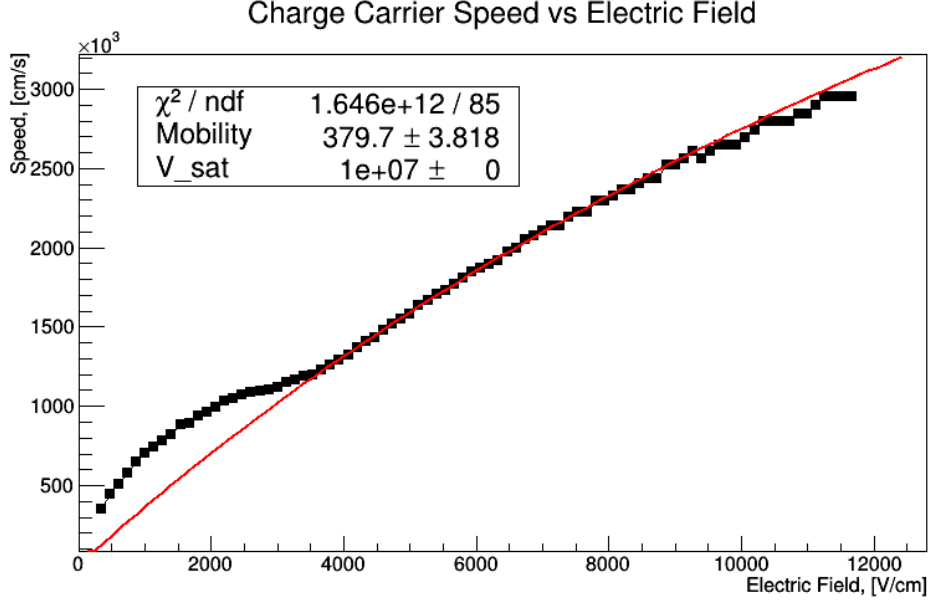

Figure 8: The average hole drift velocity for p-type sensor from Particulars.
The average hole drift velocity through the sensor is given by  $v_h = \frac{W}{t_{transit}}$ , where  $t_{transit}$  is the duration of the signal,  $W$  is the thickness of the sensor. For the sample sensor from Particulars the average hole drift velocity is shown in Figure 8. The fit function is given by (1), according to the (2), where  $v_{sat}$  is the holes saturation velocity,  $\mu_0$  is the low-field mobility,  $E$  is the electric field. The fit results in a value of  $379.7 \frac{cm^2}{Vs}$ , with assumption of detector thickness  $300 \mu m$  and saturation velocity in silicon of  $v_{sat} = 1 \times 10^7 \frac{cm}{s}$ .